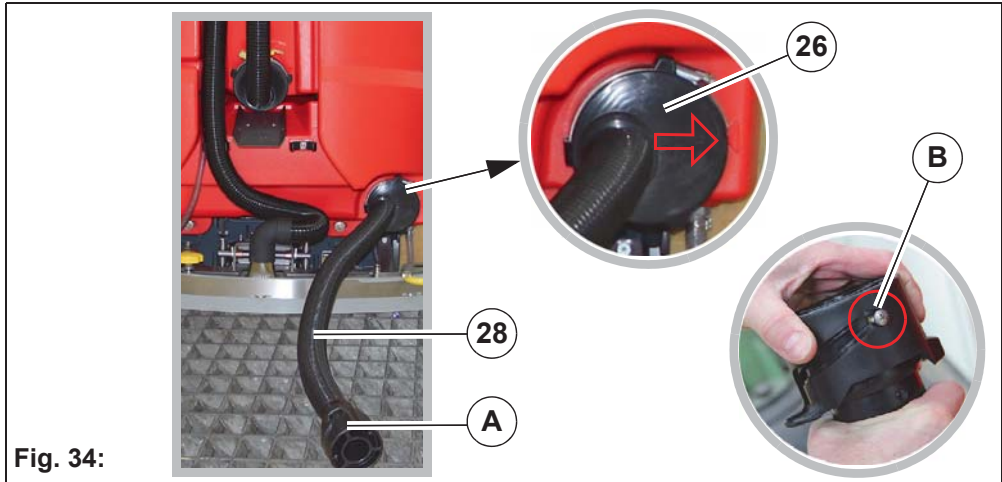

Fig. 34:
4. Remove the drain hose from the holder, open the drain valve **Fig. 34-A** and drain the waste water tank via the drain.
5. Ensure that the drain hose closure is fully closed after draining **Fig. 34-B!**